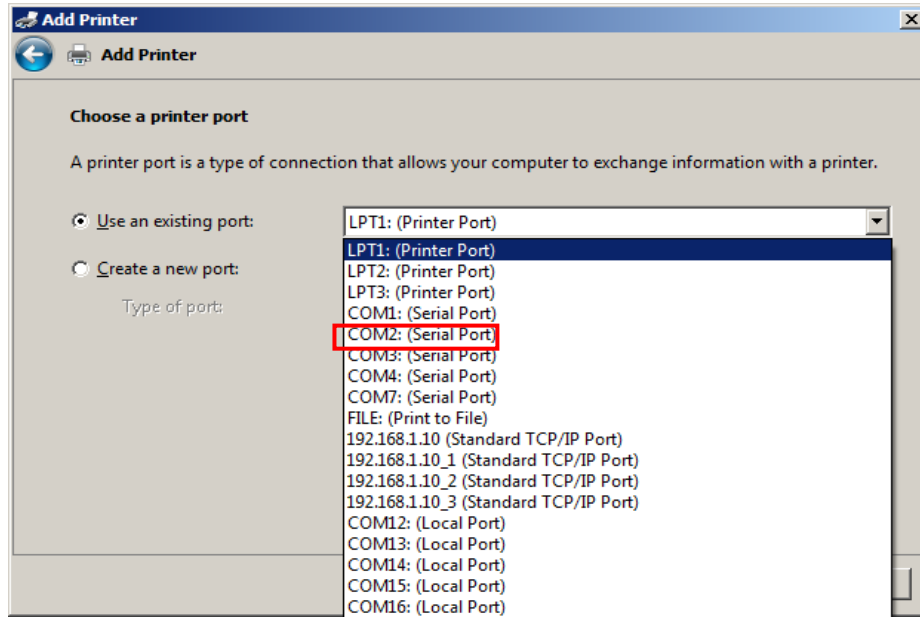

Figure 10.18 – Select port where printer is attached to on the K86200 / K86201
- 6) Click **Next** and select the port the printer is attached to on the back of the K86200 / K86201. For the serial port on the back of the K86200 / K86201 select **COM2**. (figure 10.18).